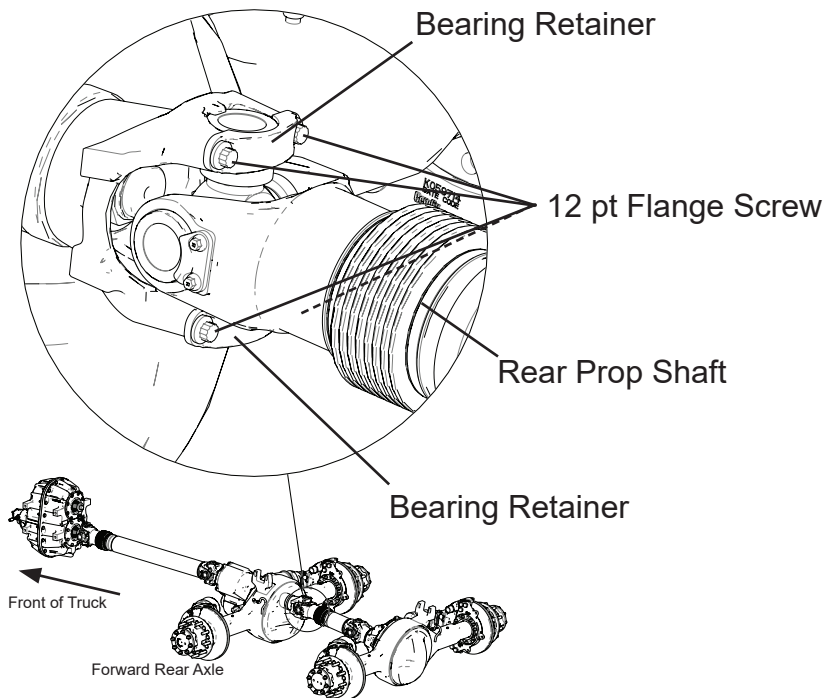

Figure 2
4. Remove the four 12 point flanged screws securing the two bearing retainers to the forward rear drive axle output shaft yoke, see Figure 2.
5. Disconnect the rear prop shaft from the forward rear drive axle output shaft yoke, see Figure 2.